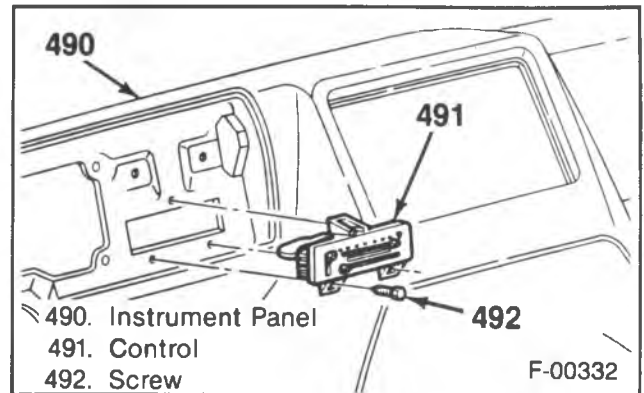

Figure 61 — Control Assembly Removal
Remove or Disconnect (Figures 61, 62, 63 and 64)
4. Control assembly screws (492) (figure 61).
5. Control (491).
Install or Connect (Figures 61, 62, 63 and 64)
Remove or Disconnect (Figures 61, 62, 63 and 65)
Install or Connect (Figures 61, 62, 63 and 65)